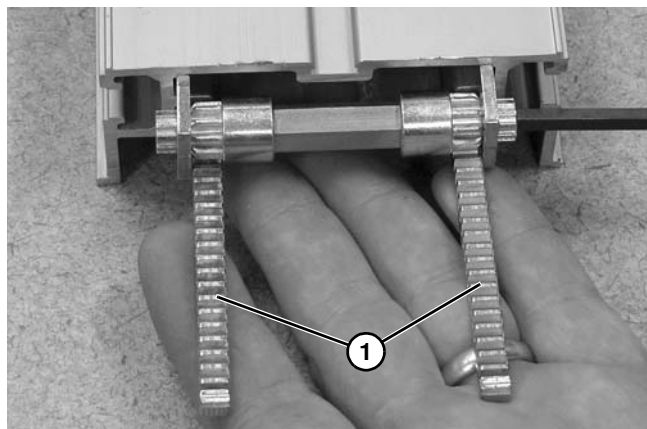

Figure 149
9. Insert both gear racks (**Figure 149, item 1**) into conveyor frame.